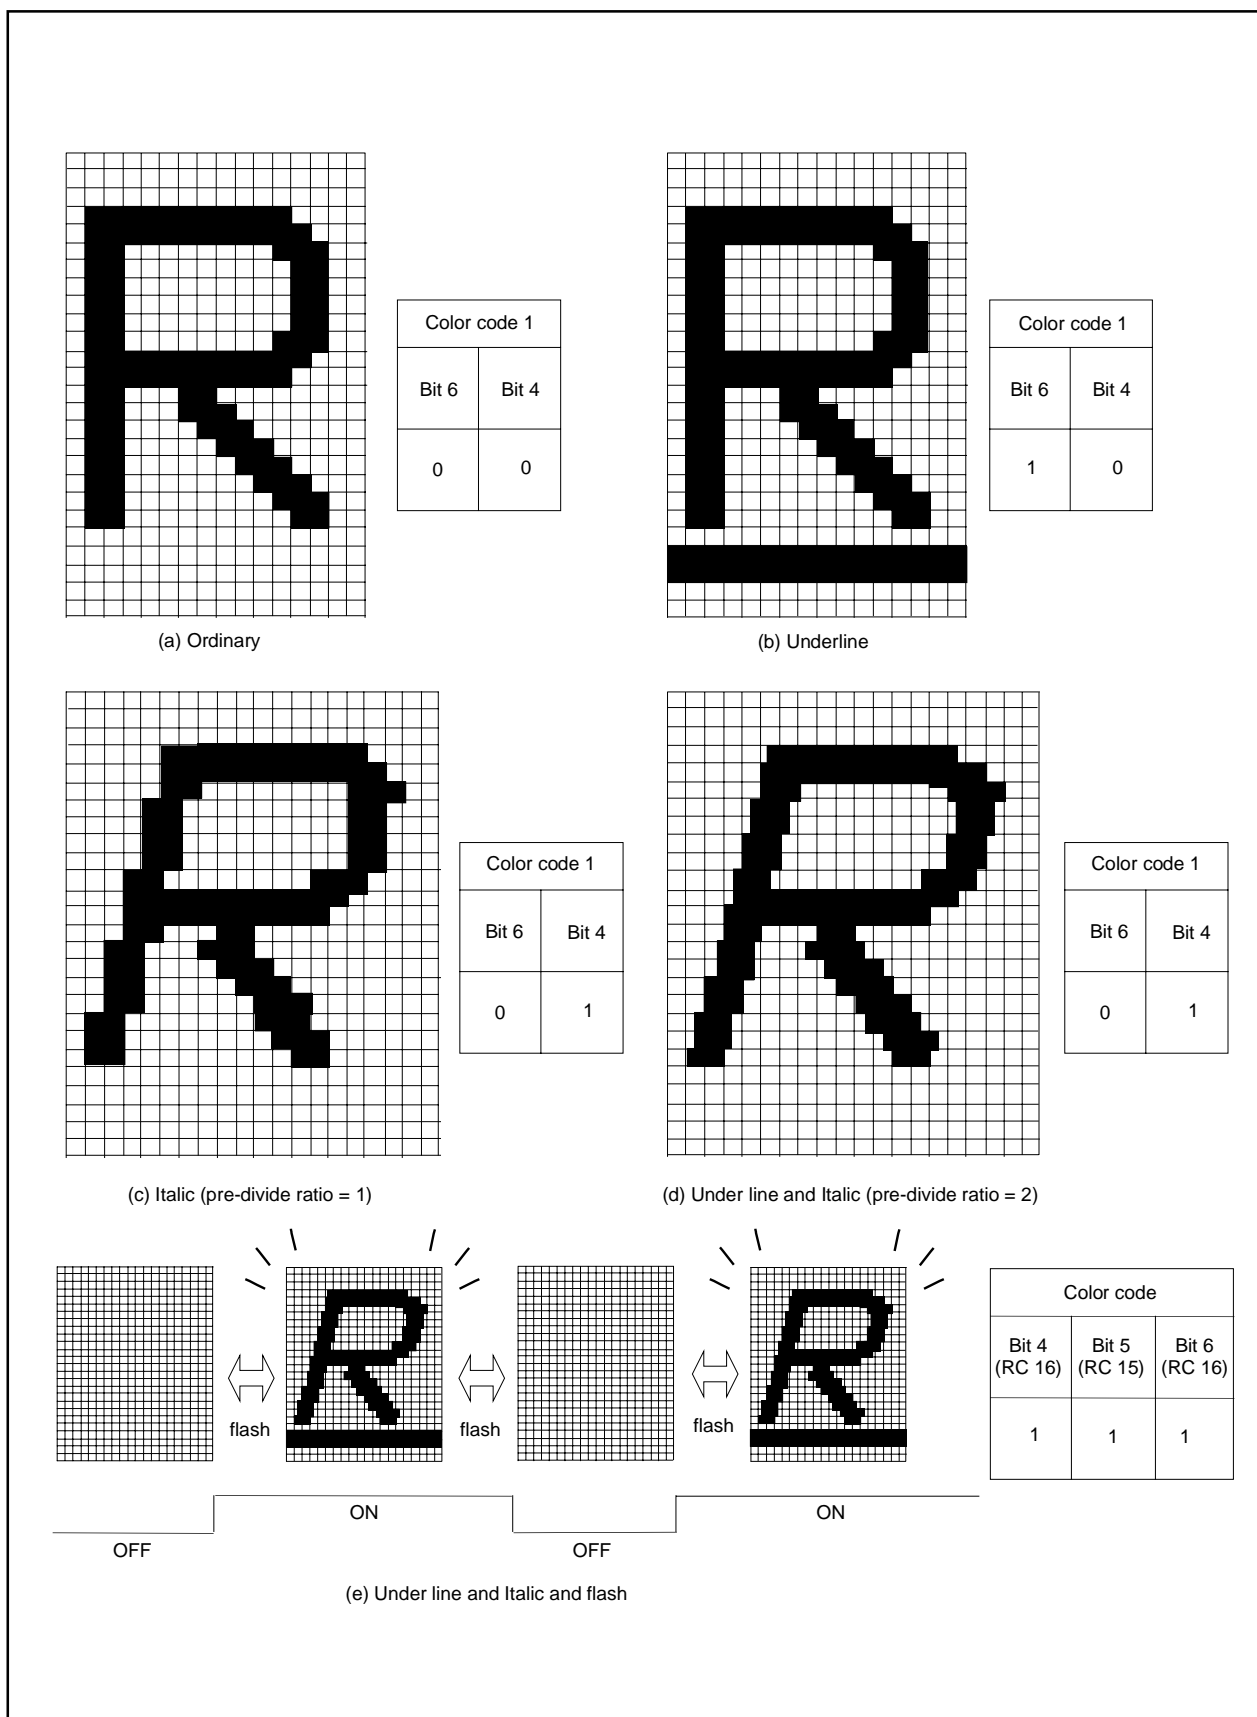

Figure 2.16.32 Example of attribute display (in CC mode)
- 4: When the pre-divide ratio = 1, the italic character with slant of 1 dot X 5 steps is displayed ; when the pre-divide ratio = 2, the italic character with slant of 1/2 dot X 10 steps is displayed (refer to Figure 2.16.32 (c), (d)). However, when displaying the italic character with the pre-divide ratio = 1, set the OSD clock frequency to 11 MHz to 14 MHz.